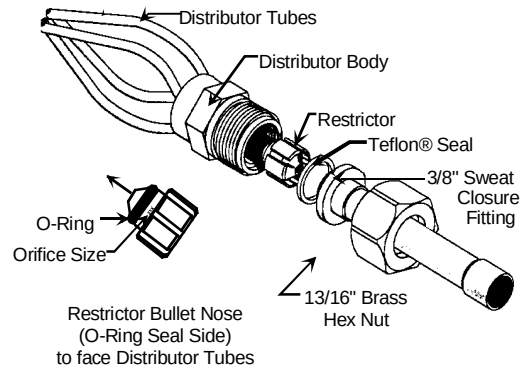

Figure 5
1. If required, install a new teflon seal as shown in Figure 5.
2. Insert new restrictor fully into the distributor body with smaller end towards the indoor coil as shown in Figure 5. Ensure the restrictor stays inserted in body before connecting mating half.